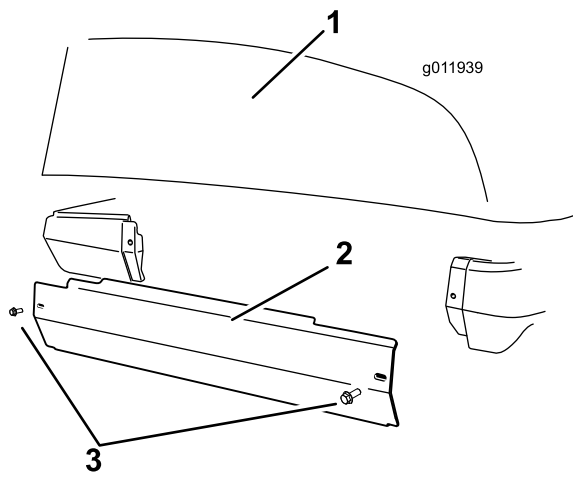

Figure 2
1. Remove the existing hardware securing the side panel to the machine and discard (Figure 2). Remove the side panel.